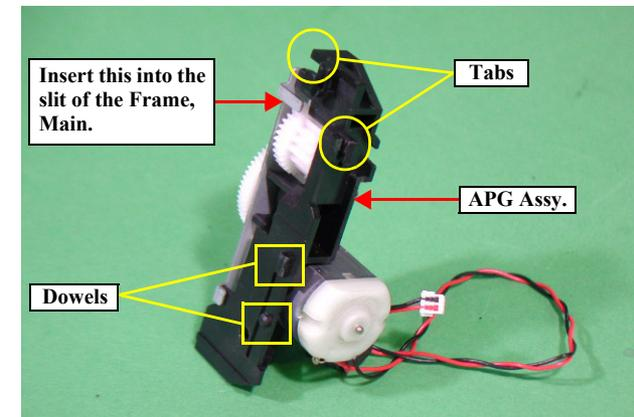

Figure 2-23. APG Assy. Installation
- Check if the part indicated in Figure2-23 is inserted in the slits of the Frame, Main.